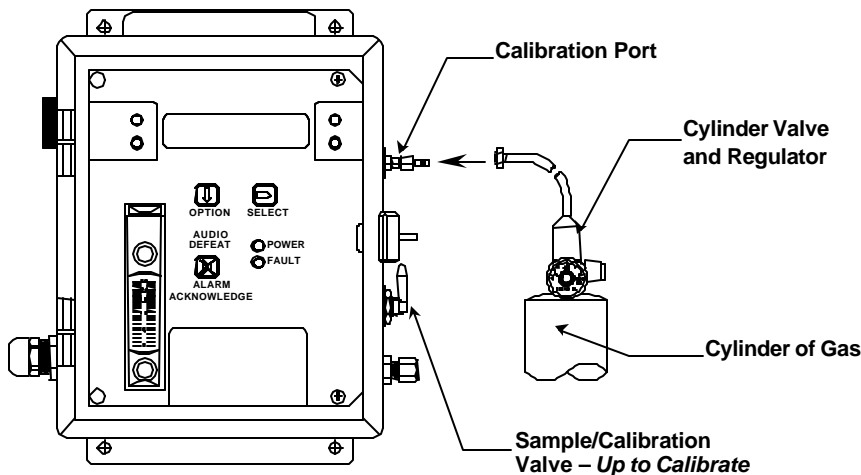

Figure 7: Connection of Calibration Gas Cylinder
TO CONTINUE THE PROCEDURE: attach a cylinder of zero gas to the Calibration Port using the calibration adapter, as shown in **Figure 7**. Open the cylinder valve, set the regulator at 55 psig, and turn the red handle of the sample-calibrate valve up toward the calibration port. Let the gas flow for about a minute
- Attach the correct span gas to the Calibration Port with the calibration adapter turn the red handle of the Sample-Calibrate valve up toward the Calibration Port. See **Figure 7**.